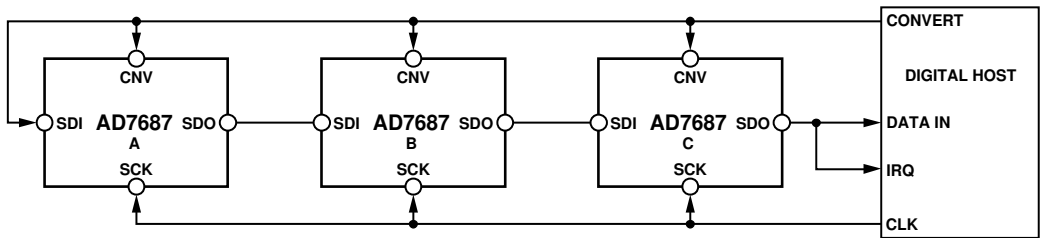
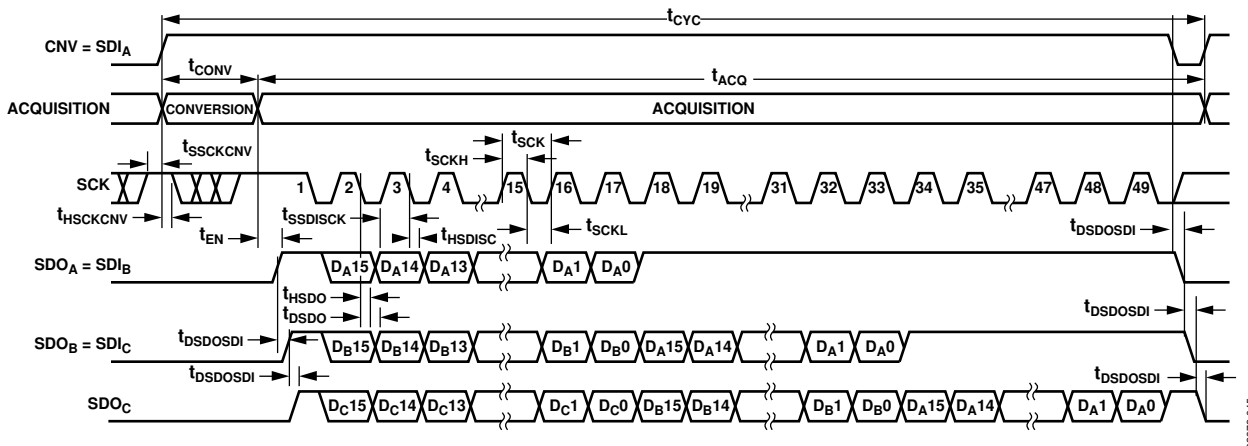

Figure 44. Chain Mode with BUSY Indicator Connection Diagram
Figure 45. Chain Mode with BUSY Indicator Serial Interface Timing
- In the chain mode if SCK is high during the  $\overline{CNV}$  rising edge (see Figure 45).
Figure 44 shows a connection diagram example using three AD7687 devices, and Figure 45 gives the corresponding timing.
When SDI and CNV are low, SDO is driven low. With SDI low and SCK high, a rising edge on CNV initiates a conversion, selects the chain mode, and enables the BUSY indicator feature. In this mode, CNV is held high during the conversion phase and the subsequent data readback. When all ADCs in the chain have completed their conversions, the SDO pin of the ADC closest to the digital host (see the AD7687 C in Figure 44) is driven high. This transition on SDO can act as a BUSY indicator to